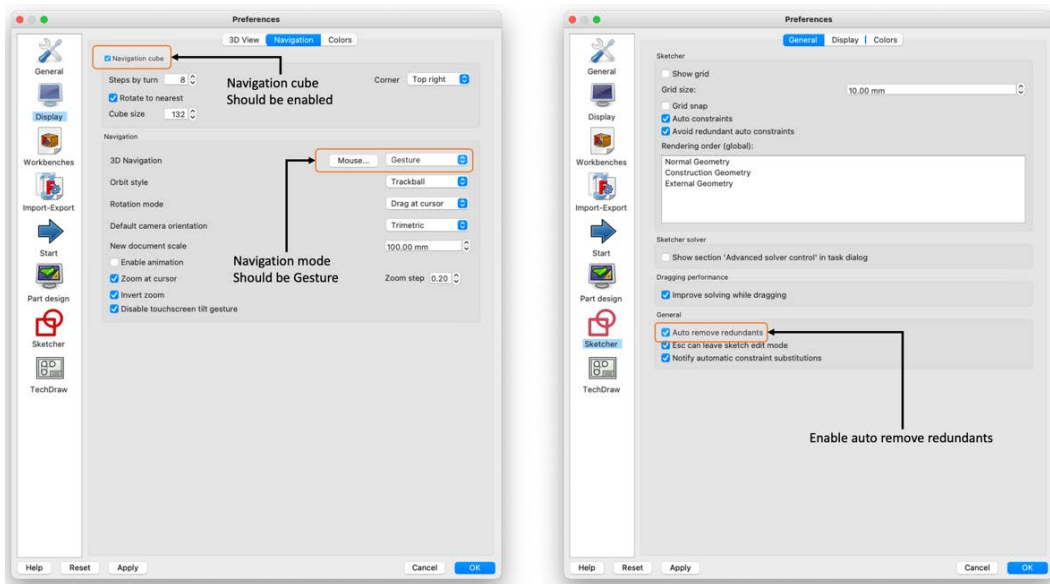

Figure 3.4 – Preferences panels
The left of Figure 3.4 shows the **Display** preferences. Perform the following steps:
4. We also need to prepare **Sketcher** preferences. These alter how the 2D drawing mode operates. Select the **Sketcher** pane under **Preferences** to show the panel on the right of *Figure 3.4*.